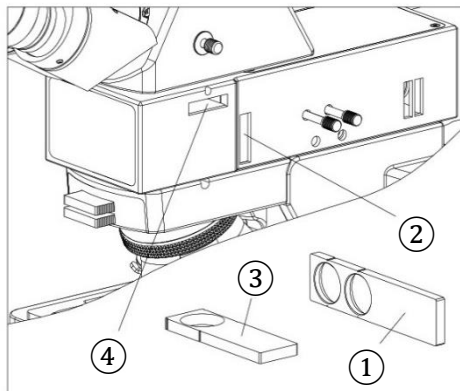

Fig. 24
To adjust the limit block for various specimen requirements, loosen the lock screw ② on the limit block ③, then move the limit block according to the direction shown in Fig. 24 and tighten the lock screw when adjusted to the appropriate position.
Insert the analyzer into the analyzer slot ④ (Fig. 24).